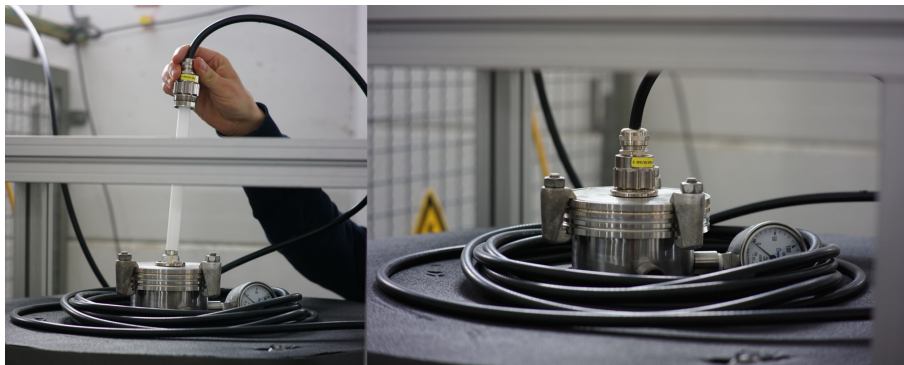

Figure 2: Left: Input connector and input socket. Right: Secure connection of input HV cable.
- **Heinzinger HV connector** of RG11 coaxial cable from electron cooler HV supply has to be securely connected to input socket (see fig. 2).
figure 1). The Keysight 3458A has to be connected according to figure 5. To minimize ground loops keep the Guard switch of the Keysight 3458A in the Open (out) position. Furthermore the input high voltage cable has to be connected to the divider according to figure 2.